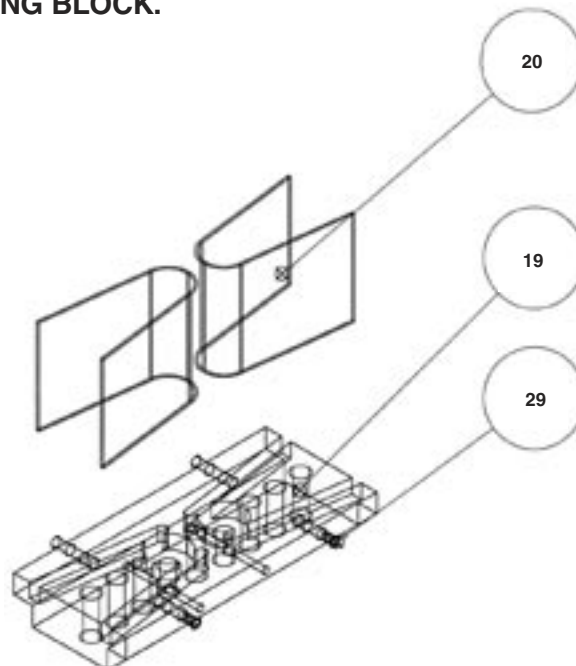

FIGURE 2 — CUTTING BLADE CHANGE INSTRUCTIONS
4. Locate the front and rear cutting blades (Fig. 2 – Item 20) and loosen the four set screws (Fig. 2 – Item 29) with the $\frac{5}{64}$ " Allen wrench (smallest of the two).
5. Squeeze the front cutting blade gently and remove the front blade from the cutting blade holder (Fig. 2 – Item 19).
6. Squeeze the rear cutting blade gently and remove the rear blade from the cutting blade holder (Fig. 2 – Item 19).
7. Replace both cutting blades with new ones ensuring that the protected sharp edges are facing up. Slightly snug the four setscrews (Fig. 2 – Item 29) in the cutting blade holder with the $\frac{5}{64}$ " Allen wrench. Remove the protective covering from the cutting blades.
9. Lower the cam handle and knob as if cutting ribbon and loosen the setscrews (Fig. 2 – Item 29). Now, while applying downward pressure on the cam handle and knob, tighten the four setscrews (Fig. 2 – Item 29) in the cutting blade holder (Fig. 2 – Item 19) with the $\frac{5}{64}$ " Allen wrench.